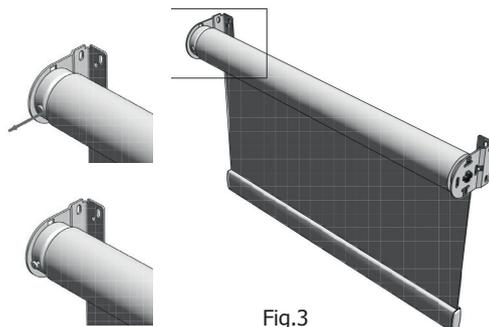

Fig.3
3. Release the pin (do not pull all the way out) from the front side of the spring. Your blind has been pre-tensioned and is now ready to operate and will stop at the desired top position. (Fig.3)